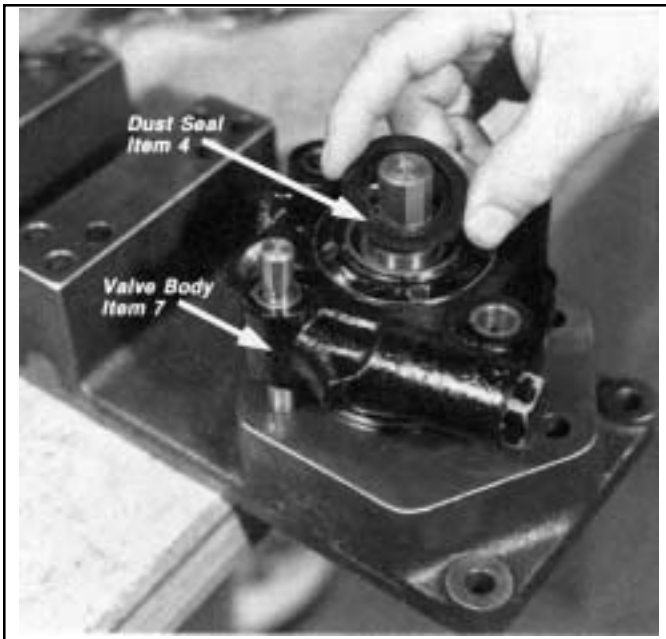

FIGURE 32 - INPUT SHAFT DUST SEAL
20. Remove the input shaft dust seal (4) from the valve nut (1). Figure 32
12. Install the dust seal (4) in the valve nut (1) taking care not to damage the seal. Figure 32 The cavity between the external dust seal (2), the dust seal(4) and fluid seal